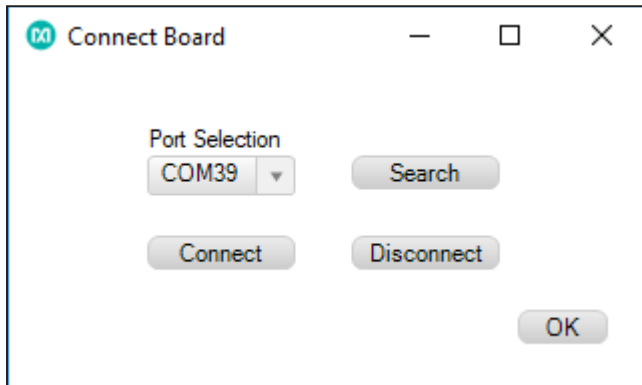

Figure 6. Connecting the board window.
- 4) Run the GUI software after the installation. The **Connect Board** window pops up (Figure 6) after the splash screen is dismissed. This page includes the COM port control functions. Click **OK** after setting the COM port. This page is dismissed. The main form appears. The details of the buttons are as follows: